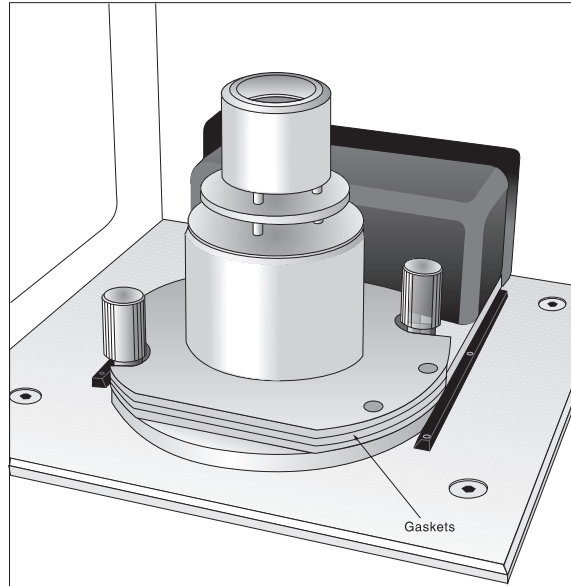

Figure 2.11
4. Fit the three new gaskets onto the cell base plate (see Figure 2.11), aligning the holes in the gaskets over the two thumbscrews.